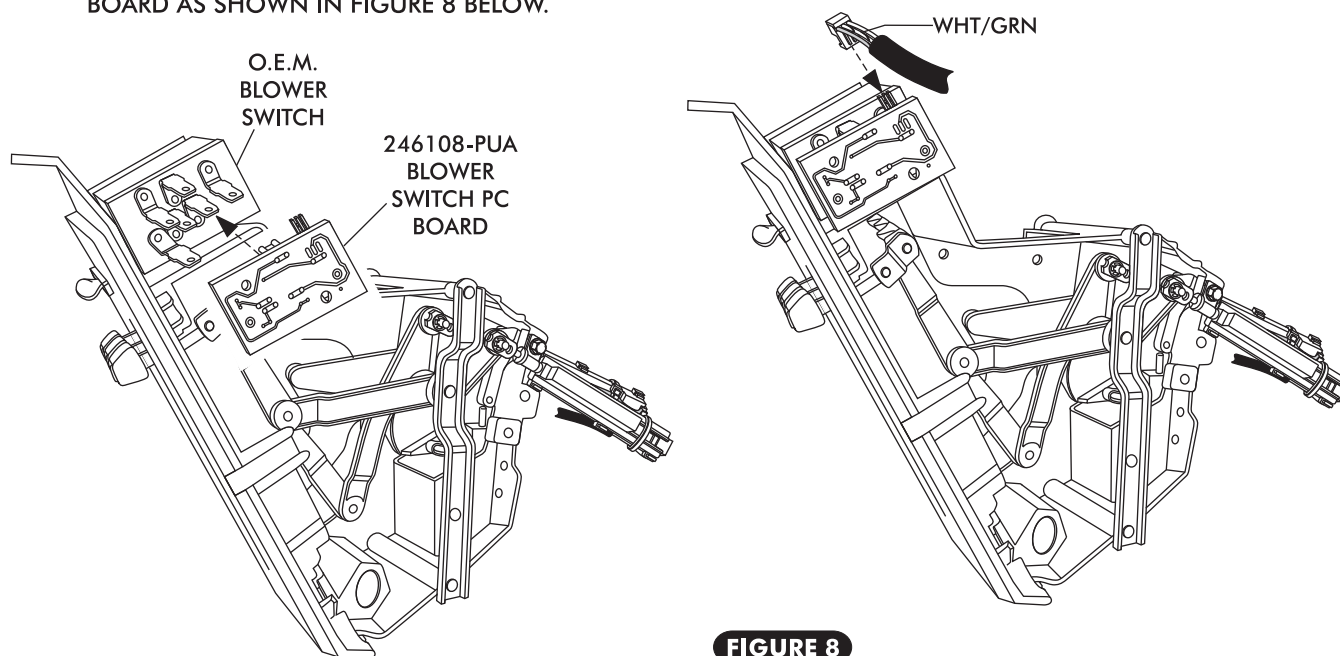

FIGURE 8
- INSTALL THE BLOWER SWITCH PC BOARD ON O.E.M. BLOWER SWITCH AS SHOWN IN FIGURE 8 BELOW.
- PLUG IN THE REMAINING CONNECTOR WITH THE RED, WHT & WHT/GRN WIRES INTO THE BLOWER SWITCH PC BOARD AS SHOWN IN FIGURE 8 BELOW.